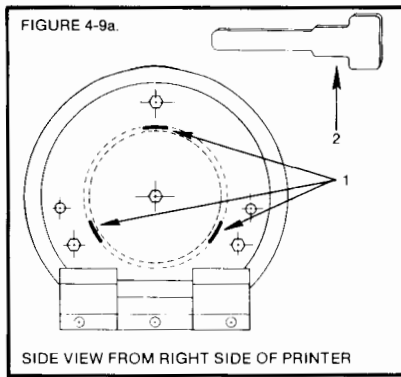

Figure 11.
- f. Place one T-shim (02608-00231) in each of the three slots in the rear plate of the magnet assembly and push the shims as far forward as possible. See figure 11 for the T-shim slot location.